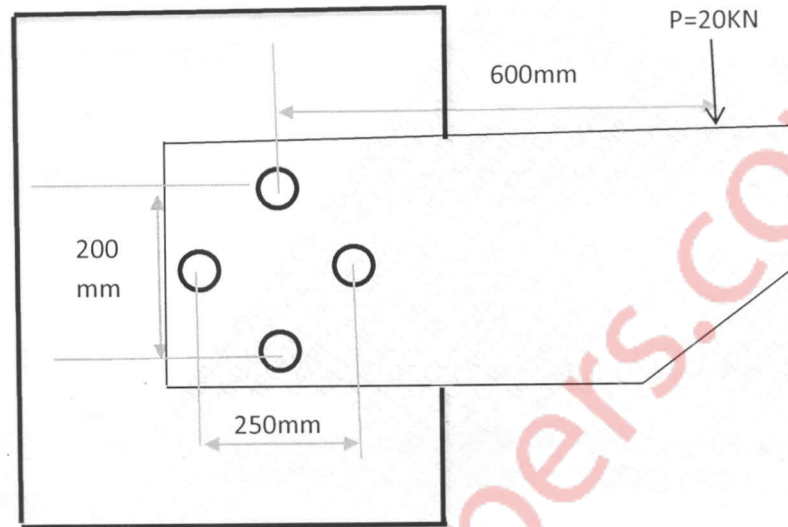

Fig: 2
- (b) A bracket is supported by four rivets of equal diameter as shown in fig. 2. Determine the size of the rivet taking the permissible shear stress as 60MPa.